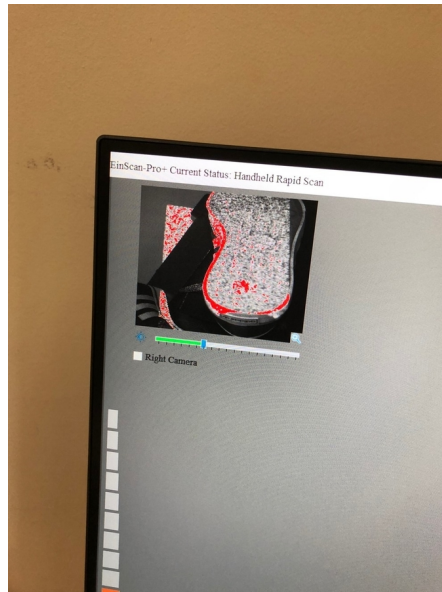

Figure 5: The brightness level of the scanner can be seen in this small sub-screen.
7. The speckled red lights in the top left corner of the screen indicate areas that are not being captured well due to brightness (Figure 5). There are two ways to adjust brightness and collect more detail from each shoe sole.